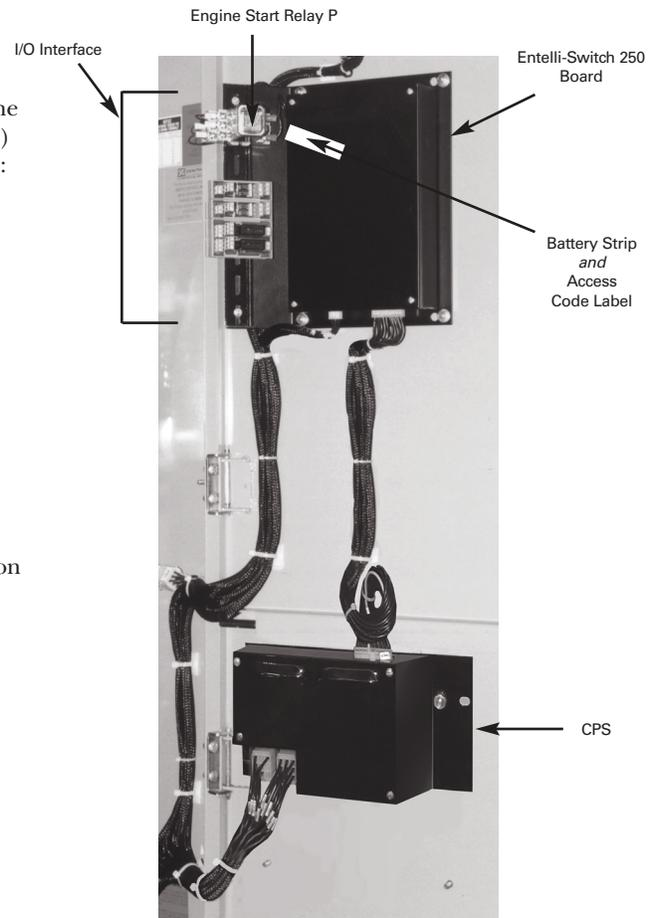

Figure 7
A. Entelli-Switch 250 Board - Customer Input and Output (I/O) for system interface. Located on the left hand side of the back of the unit (see figure 7)
Contains transformers which drop line voltage to control level for controller input and SCR inputs (see figure 7).